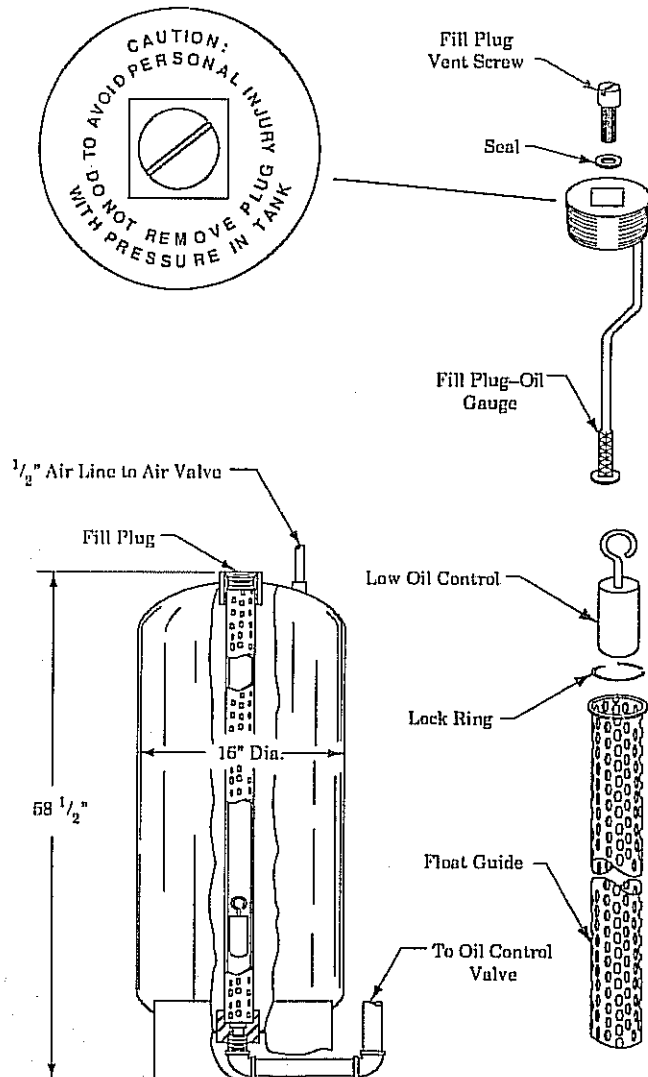

Fig. 9
- A. Fill tank with oil (approximately 42 gallons). Install and tighten fill plug and fill plug vent screw, Fig. 9.
E. Use a screwdriver to manually open fill plug vent screw 3 full turns, Fig. 9. If you hear or feel air escaping "STOP", the system is still pressurized. Repeat step "D".
I. Install low oil control, as shown in Fig. 9.